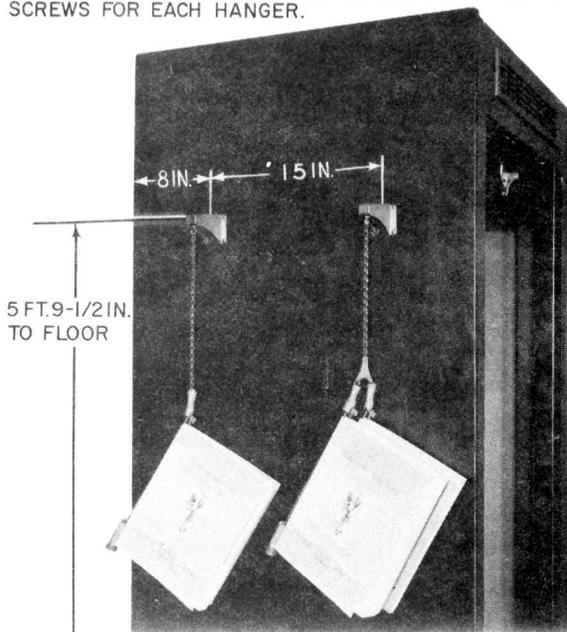

Fig. 3—KS-13350 Type Hanger Installation
- Outside panels of wood booths, (Fig. 3)
- Wall surfaces with the use of backboards. Install in same manner as Fig. 3.